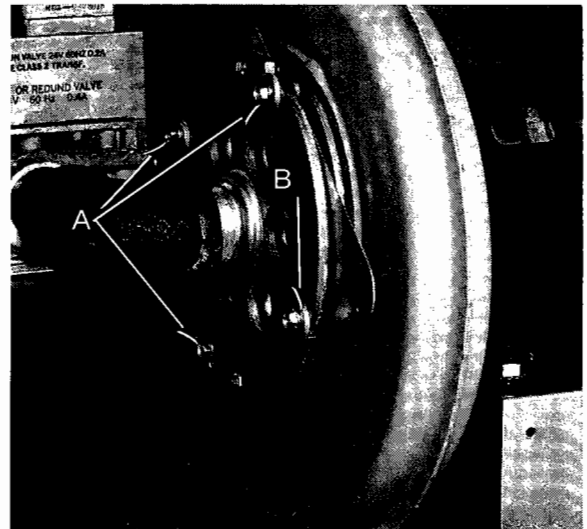

FIGURE 16
1. Loosen screws A (3) with $\frac{1}{4}$ " box or open end wrench. (Fig. 16)